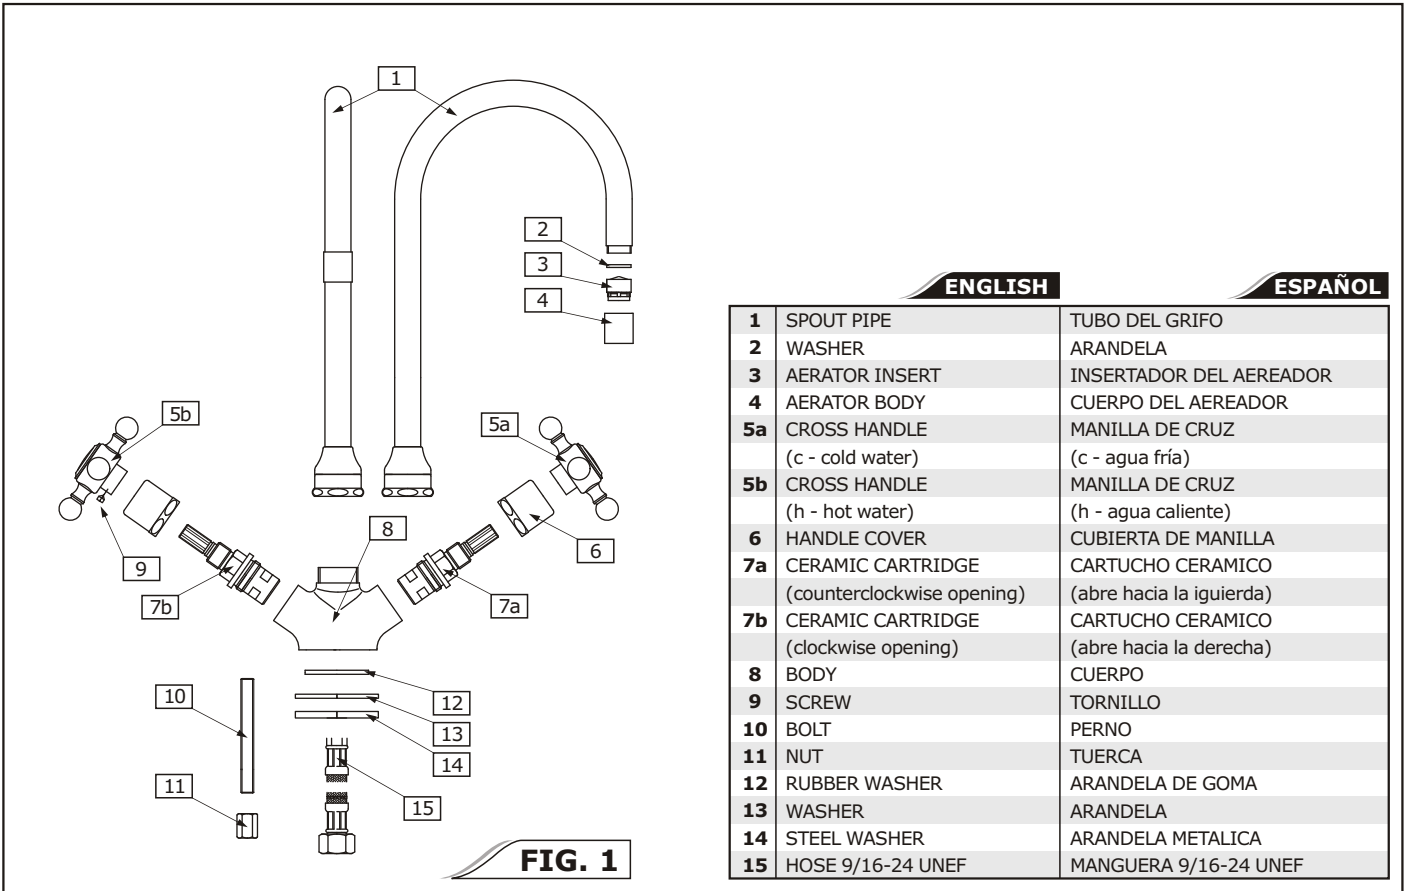
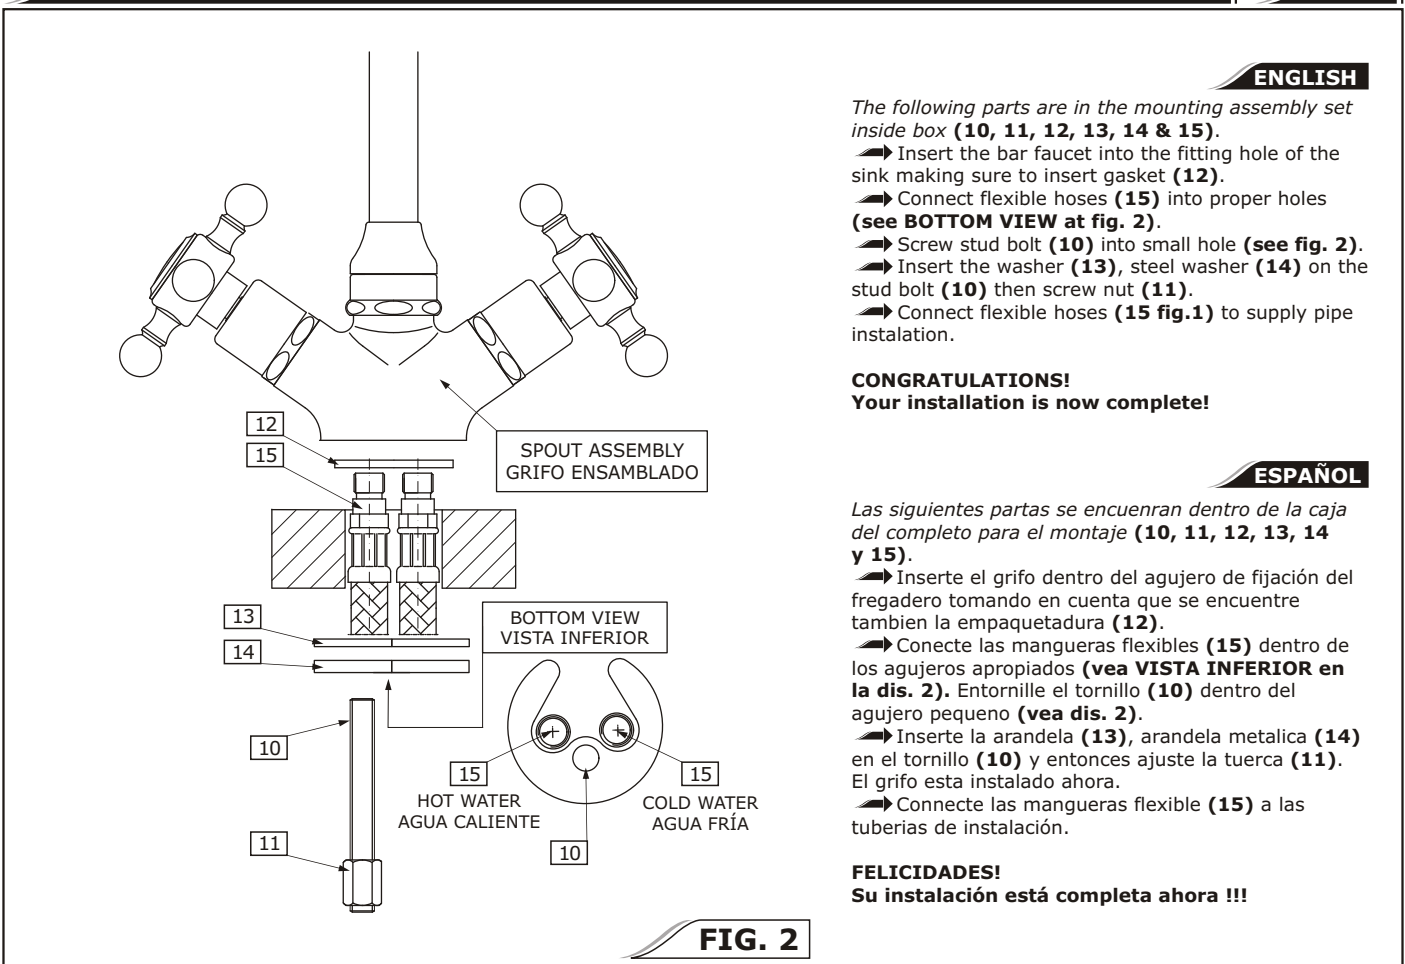

FIG. 1
FIG. 2
- ➔ Insert the bar faucet into the fitting hole of the sink making sure to insert gasket (12).
- ➔ Connect flexible hoses (15) into proper holes (see BOTTOM VIEW at fig. 2).
- ➔ Screw stud bolt (10) into small hole (see fig. 2).
- ➔ Insert the washer (13), steel washer (14) on the stud bolt (10) then screw nut (11).
- ➔ Connect flexible hoses (15 fig.1) to supply pipe installation.
See fig. 1